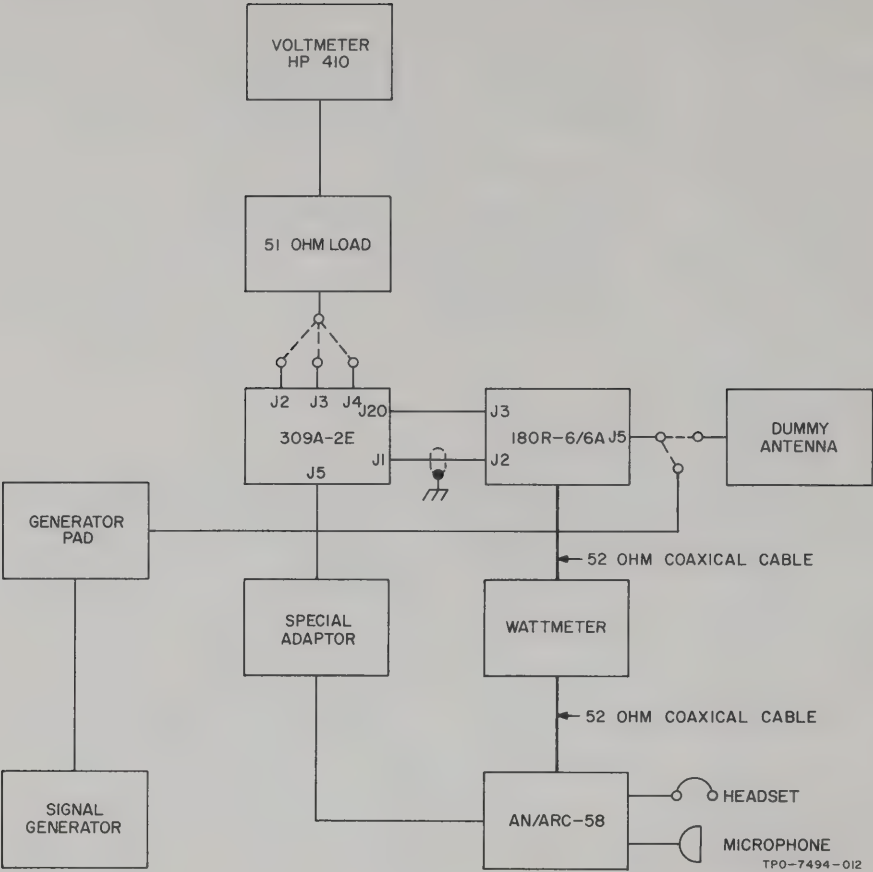

Figure 4-2. Bench-Test Equipment, Block Diagram.
Bench testing the 180R-6/6A and 309A-2E is recommended for isolating malfunctions and testing the equipment prior to installation. Figure 4-2 is a block diagram showing a bench-test setup using an AN/ARC-58 Receiver/Transmitter. Table 4-6 lists the necessary test equipment to perform the tests. If a 548L-4A Linear Power Amplifier is used for bench testing, figure 6-9 will aid in cable makeup.
It is recommended that the special adapter junction box be used as shown in figure 4-2. Figure 4-3 is a schematic diagram of the special adapter. The special adapter may be constructed from the parts listed in table 4-7.
- b. Set up equipment as shown in figure 4-2 (except do not connect the signal generator).
With associated equipment connected as shown in figure 4-2, apply 2 volts rms to J5 of the 180R-6/6A. Output readings from J2, J3, and J4 (309A-2E) for 1.5 MHz, 4 MHz, and 12 MHz should be no less than 0.7 volt, and at 29.999 MHz, should be no less than 0.45 volt.